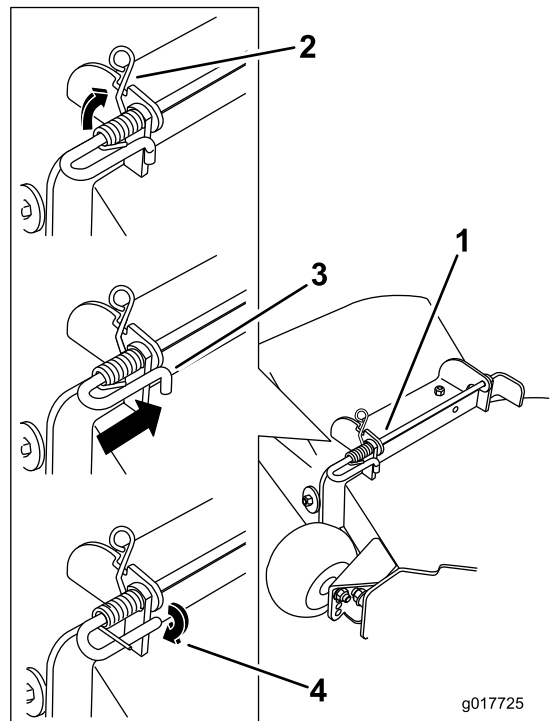

Figure 77
4. Lift the loop end of the spring and place it into the notch on the deflector bracket (Figure 77).
5. Secure the rod and spring assembly by twisting it so the short end of the rod can be placed behind the front bracket welded to the deck (Figure 77).